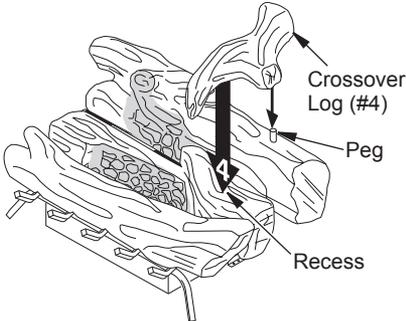

Figure 28 - Installing Crossover Log (#4)
4. Place crossover log (#4) onto pin (right) on back log (#2) and into recess of middle log (#1) (see Figure 28, page 18).